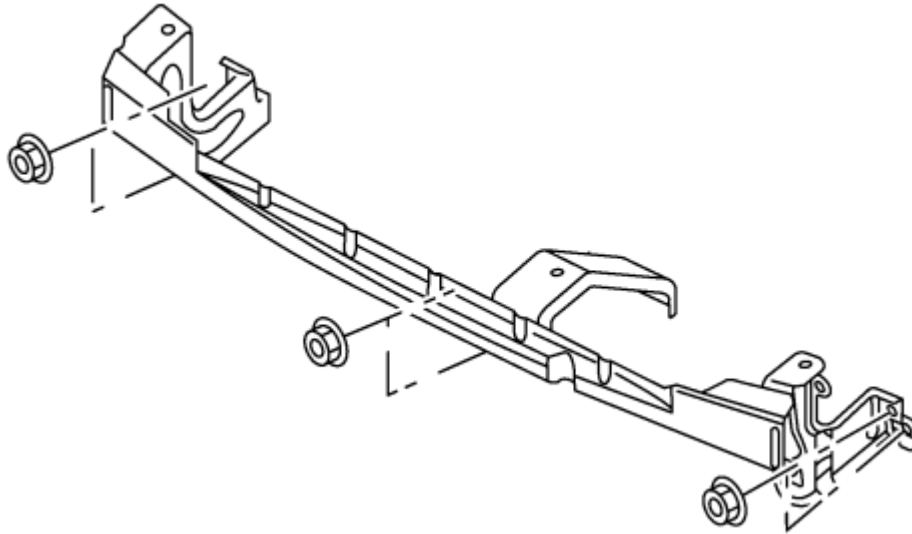

Figure 12
18. Remove the Front Bumper Bracket. It is secured by (6) six nuts. *Figure 12.*